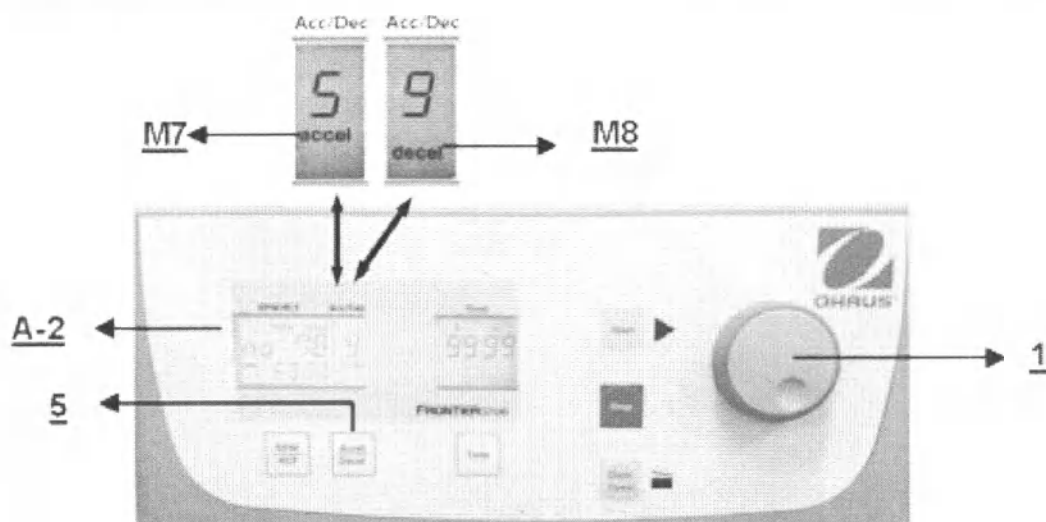

Fig. 21
To preset these parameters, the key **Accel/Decel** (5) is used (see Fig. 21).